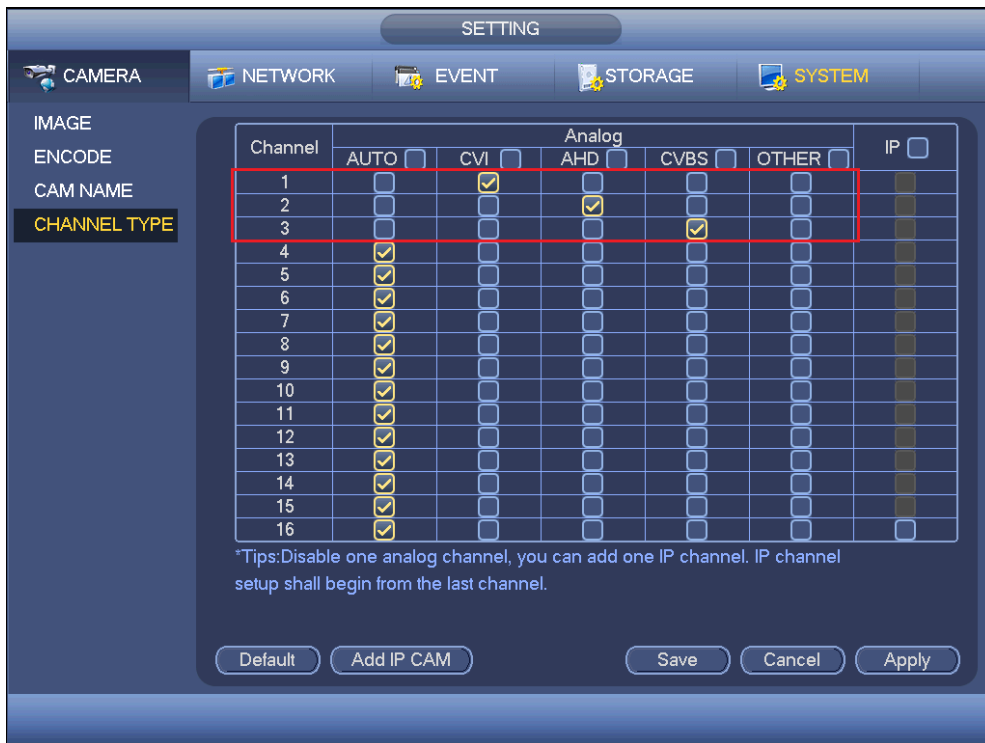

Figure 4-111
- If the auto recognition error occurred, penta-brid series product supports manual setup too. The manual setup featuring high recognition speed and usually there is no error. For example, in Figure 4-111, you can set channel 1 to connect to CVI camera, channel 2 to connect to AHD camera, channel 3 to connect to CVBS camera.